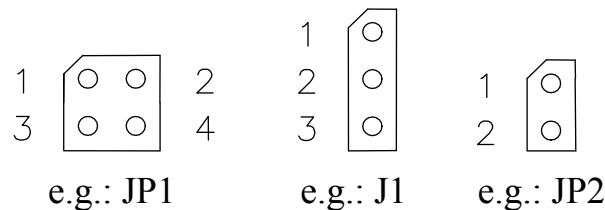

Figure 16: Typical jumper numbering scheme
The phyCARD Carrier Board comes pre-configured with 2 removable jumpers (JP) and 3 solder jumpers (J). The jumpers allow the user flexibility of configuring a limited number of features for development constraint purposes. Table 32 below lists the 5 jumpers, their default positions, and their functions in each position. Figure 16 depicts the jumper pad numbering scheme for reference when altering jumper settings on the development board.